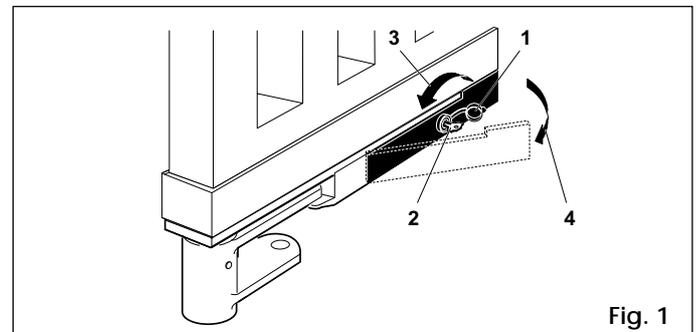

Fig. 1
Should the need arise to operate the gate manually because of a power failure or malfunction, the release device with key fitted on the support bracket (fig. 1 - ref. 6) makes it possible to release the system both from the inside and from the outside.
At regular intervals, check the structure of the gate and make sure that the hinges are in perfect working order. Periodically lubricate the pivot and ball in the support bracket, through the lubricating bore shown in fig. 1 - ref. 13. Make sure that the pivots of the lever systems, the pinion and the engagement of the lock on the locking bracket (fig. 1 - ref. 5) are always well lubricated, and check the efficiency of the manual operation.
- open the lid of the lock (fig. 1-ref. 1);
- insert the release key in the lock (fig. 1-ref. 2);
- turn the key in the direction of the post, as far as it will go (fig. 1-ref. 3);
- pull the lever out (fig. 1-ref. 4);